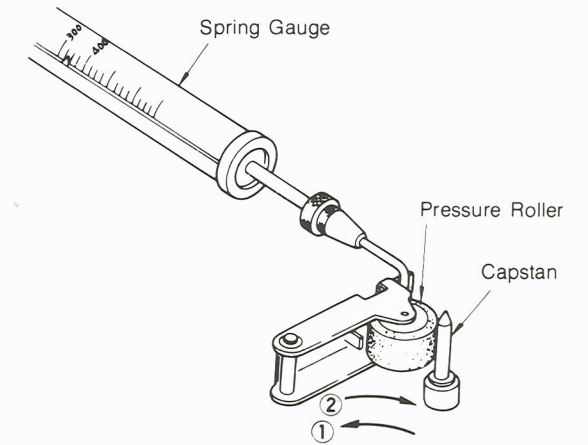
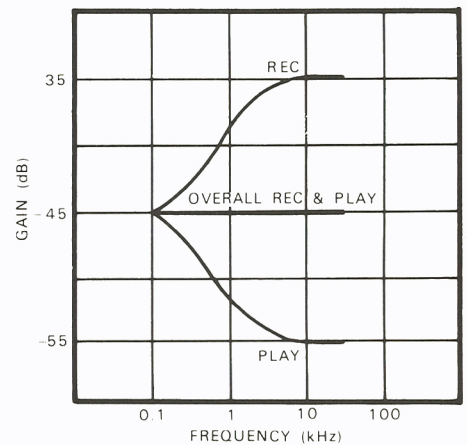

FIG. 18
FIG. 23
- Hook Spring gauge to arm of pressure roller, as shown in Fig. 18.
Fig. 18 shows the boosting frequency characteristics. Generally, the signal deviation increases in proportion to the frequency. At playback, the characteristics are curved symmetrically against the recording curve and the overall REC and PLAY curve flattens as shown in Fig. 23. This 0 dB is called Dolby Level, which is the flux level of the cassette tape and standardized at the point of 200 pwb/mm, and it is indicated by $+3$ VU on the VU meter of this equipment.